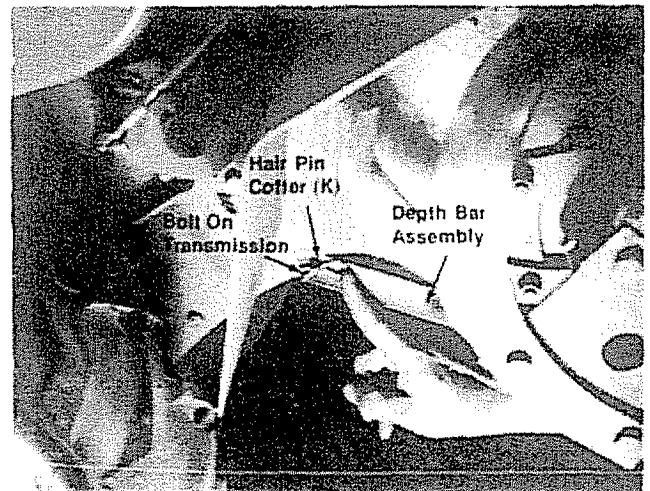

FIGURE 7
- E. Attach front end of depth bar assembly to transmission housing. Slip depth bar over bolt and secure with hair pin cotter (K). See figure 7.